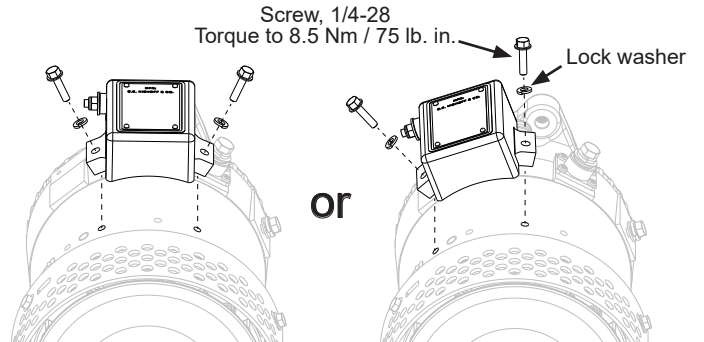

Figure 10: Regulator Mounting Location Options (anti-drive end view)
- If installing regulator without N7518 cable clamp bracket, Install regulator in appropriate location using screws and lock washers included with regulator as shown in Figure 10. Torque screws to 8.5 Nm/75 lb. in.